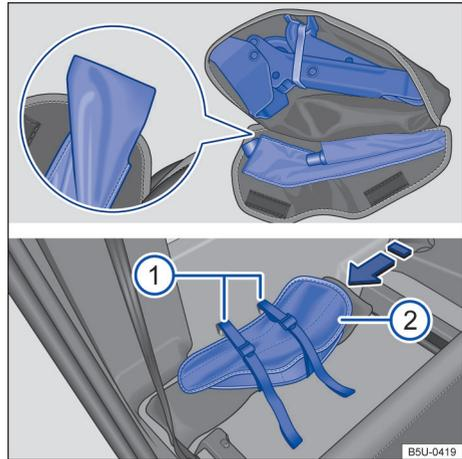

Fig. 126 Behind the passenger seat backrest: ① vehicle toolkit securing straps and ② vehicle toolkit bag.
- Fit the jack in the bag and fully close it → Fig. 126, with the jack base in the wider part of the bag.
- Fit the wheel wrench into its proper housing and ensure that the pawl → Fig. 126 (magnifying glass) is placed underneath the wheel wrench to prevent rattling when driving.
- Place the vehicle toolkit bag behind the passenger seat, on top of the warning triangle and through the fastening straps, as per → Fig. 126 in the direction of the arrow.
- For correct securing of the toolkit, position same with the velcro straps of the bag turned forward → Fig. 126 ②.